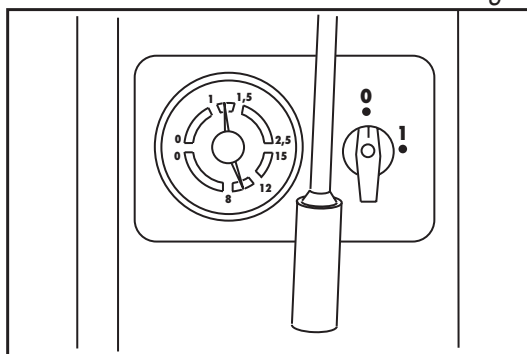
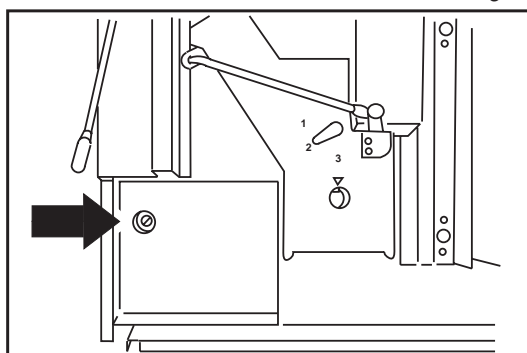

Fig. 6
Fig. 7
- In about 5-7 minutes, the ☞ pad will light to indicate that the right temperature in the boiler has been reached. (Ensure that the upper scale of the manometer indicates a pressure between 1,2 and 1,5 kPa (fig.6).
- Press the ♥ and then the ☞ pad. When water begins to flow out of the nozzle, the lower scale of the manometer should indicate a pressure between 8 and 10 kPa (fig.6). If this is not the case, the correct level can be adjusted by means of the calibration screw found behind the coffee dreg drawer (fig.7). The water flow stops by pressing any of the selection buttons.